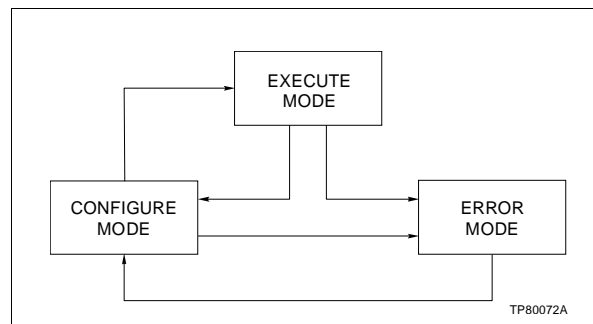

Figure 5-5. Entering the Execute Mode
2. After the error has been corrected, place the Type SLC controller into configure mode first and then into execute mode. As Figure 5-5 indicates, the execute mode is only accessible through the configure mode.